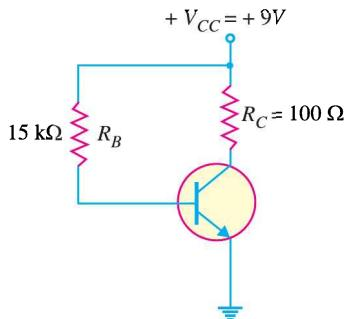

Fig. 9.54
12. The base bias circuit in Fig. 9.54 is subjected to a temperature variation from 0°C to 70°C. The β decreases by 50% at 0°C and increases by 75% at 70°C from its normal value of 110 at 25°C. What are the changes in I_C and V_{CE} over the temperature range of 0°C to 70°C ?